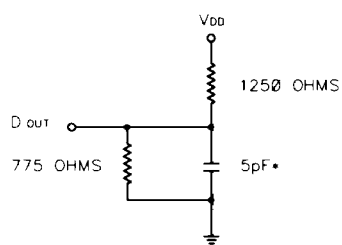

Figure 2.
1. Transition is measured ± 500 mV from low or high voltage with load (Figure 2). This parameter is sampled and not 100% tested.
** (I) $T_A = -40^\circ\text{C}$ to $+85^\circ\text{C}$, $V_{DD} = 5V \pm 10\%$, $V_{SS} = 0V$
*** (X) $T_A = -55^\circ\text{C}$ to $+125^\circ\text{C}$, $V_{DD} = 5V \pm 10\%$, $V_{SS} = 0V$ unless otherwise noted